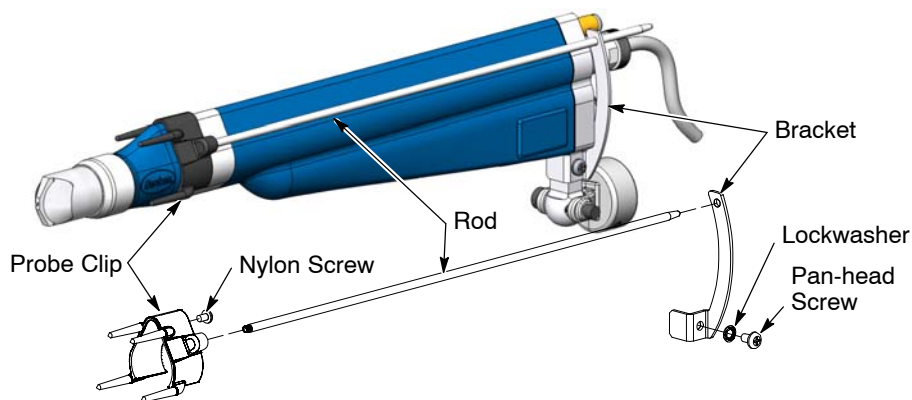

Figure 5 Ion Collector Installed on Gun
1. See Figure 5. Install the bracket on the clamp with the lock washer and pan-head screw.